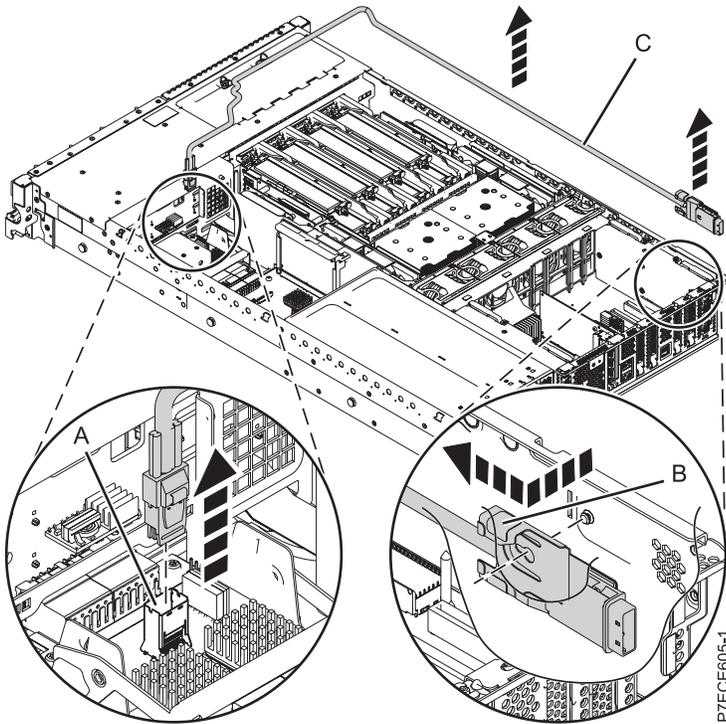

Figure 39. Removing the external SAS port
- 1) Press the side tab **(B)** and pull out the SAS shroud from the external SAS connection port on the disk drive backplane. See Figure 39 on page 52.